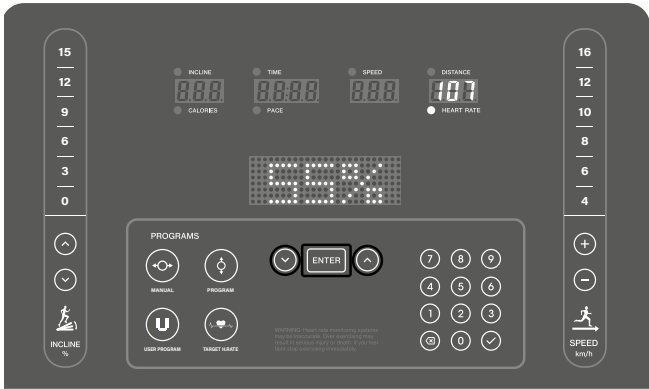

FIGURE 19
5. Select one of the four programmes (55%, 75%, 90% or TAG) using the arrow keys (Figures 19–20).